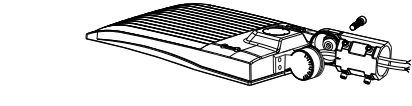

Figure 1
1. ADJUSTABLE FITTER MOUNTING (AM)
- Step 1: Remove the bracket mounting screws on the fixture and run the wires through the bracket. (Figure 1)